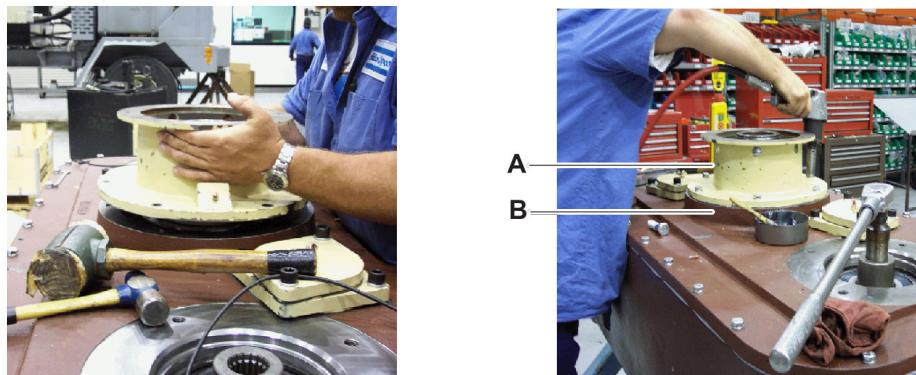

Figure 3
4. Orient the swivel housing (Figure 3, item A) with the lubrication fitting facing the front of the rotary head housing (item B) for easy field lubrication access.